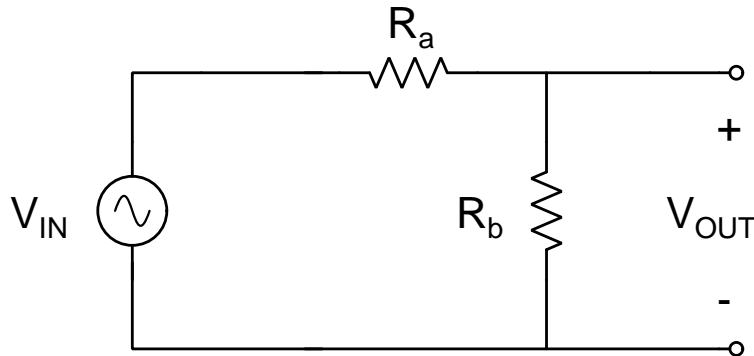

Figure 1: The circuit under test (CUT) is an ideal resistor divider circuit.
In this lab you are to determine the voltage ratio,  $V_{OUT}/V_{IN}$ , produced by the voltage divider with resistors  $R_a$  and  $R_b$  shown in Figure 1.
2. For each of the three pairs of resistors, place two resistors with the same value on the bread-board to make a series circuit as shown in Figure 1. If the resistors have slightly different values, make sure you keep track of which resistor is which.